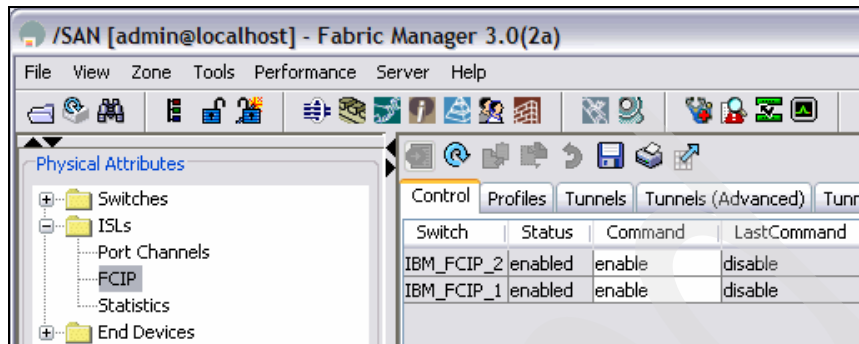

Figure 12-9 FM FCIP enable
- c. Apply the changes by clicking the **Apply** icon. Figure 12-9 shows the FCIP protocol enabled for both our switches.